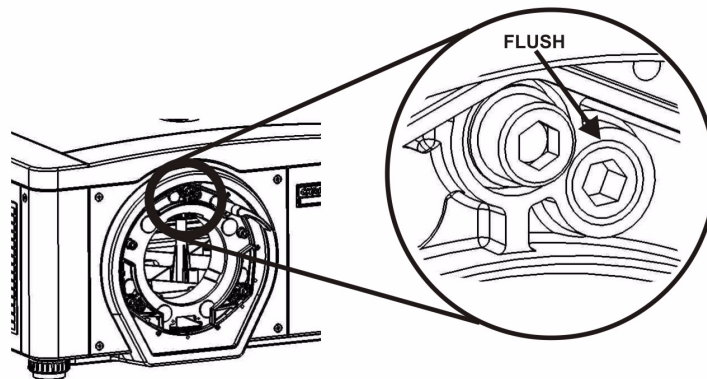

FIGURE 2-16 - POSITION SETSCREW FLUSH
9. The original factory boresight can be recovered approximately by positioning the 3 setscrews, see Figure 2-15 - Screw Locations. Position the setscrews flush with the front face of the lens mount plate and in contact with the inner lens mount plate, see below Figure 2-16 - Position Setscrew Flush. This may require adjusting both setscrews and capscrews.